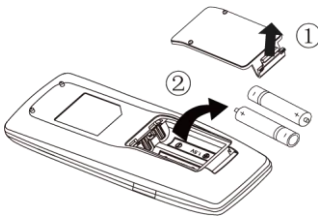

Fig.5
- (1). Lift the cover along the direction of arrow (as shown in Fig 5①).
- (2). Take out the original batteries (as shown in Fig 5②).